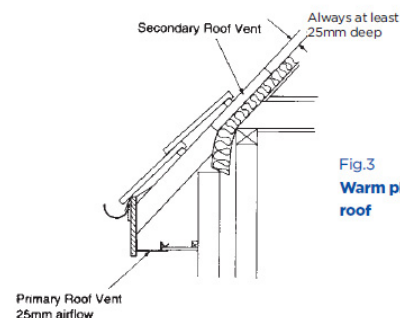

Fig.3
- With a pitched roof where the roof space contains living accommodation and part of the ceiling and insulation follow the same line as the rafters a free airflow is required which is equivalent to a continuous 25mm opening (25,000 mm2 per metre run). See Fig. 3
- With a pitched roof where the roof space contains living accommodation and part of the ceiling and insulation follow the same line as the rafters a ventilation channel at least 25mm deep must be maintained between the roof insulation and the underside of the roof covering. See Fig. 3